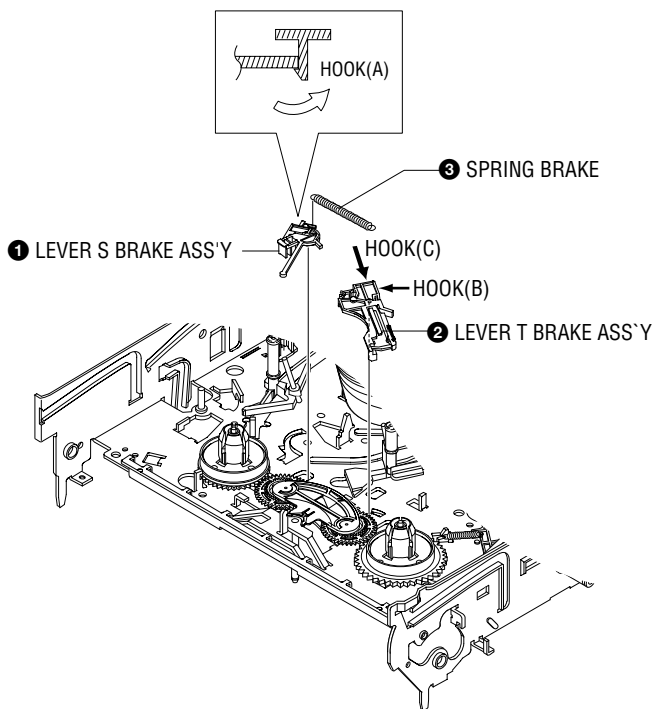

Fig. 2-25 Lever Brake S, T Ass'y Removal
- 1) Remove the Lever Brake S Ass'y (Refer to Fig 2-25).
- 2) Remove the Spring Tension Lever ❶.
- 4) Lift the Lever Tension Ass'y ❷ & Band Brake Ass'y ❸.
- 1) Release the Hook [A] and the Hook [B], [C] in the direction of arrow as shown in Fig 2-25.
- 2) Lift the Lever S, T Brake Ass'y ❶, ❷ with spring brake ❸.